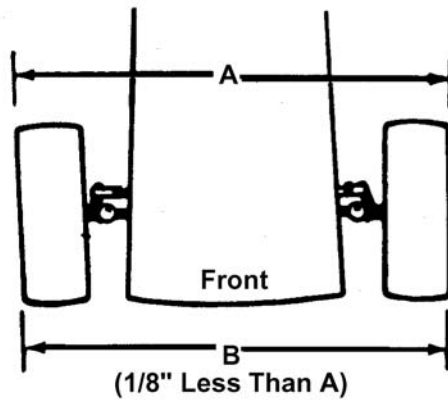

Figure 7-48. Units With Adjustable Tie Rods
- c.) Reassemble tie rod. Check dimensions. Readjust if necessary. See Figure 7-48.